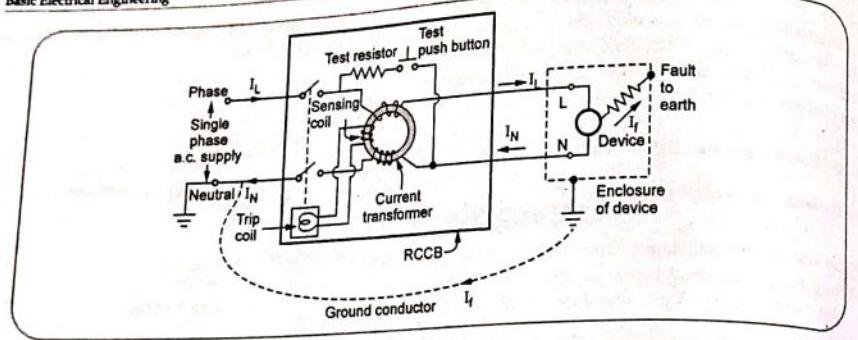

Fig. 6.11.1 RCCB
- The schematic of RCCB is shown in the Fig. 6.11.1.